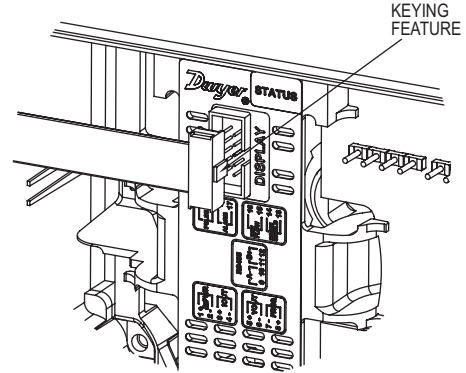

Figure 5: Connecting the display for field configurable models
1. To prepare the meter for installation, mount the provided alignment scale to the side of the meter using the two captured thumbscrews, finger tighten only. Be sure to orient the alignment scale as shown in Figure 5 below. Actual scale setting determined in next step.
- d. If using an A-IEF-DSP or the A-IEF-KIT, insert one connector of the ribbon cable supplied in the setup kit into the connector labeled "Display" in the middle of the unit. Be sure to orient the keying feature/ tab. See Figure 5 below: